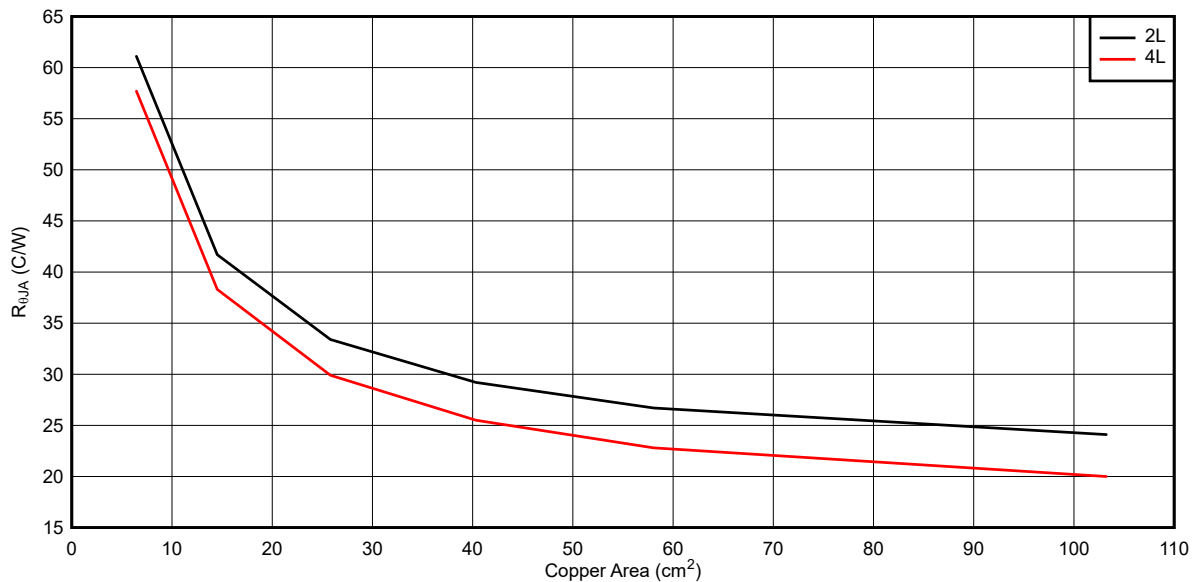

图 8-33. Typical  $R_{\theta JA}$  Versus Copper Area for DDA package
The LM516x features a die attach paddle, or "thermal pad" (EP), to provide a place to solder down to the PCB heat-sinking copper. This provides a good heat conduction path from the regulator junction to the heat sink and must be properly soldered to the PCB heat sink copper. Typical examples of  $R_{\theta JA}$  can be found in 图 8-33 and 图 8-34. The copper area given in the graph is for each layer. The top and bottom layers are 2-oz copper each, while the inner layers are 1 oz.
Remember that the data given in 图 8-33 through 图 8-36 is for illustration purposes only, and the actual performance in any given application depends on all of the previously mentioned factors.